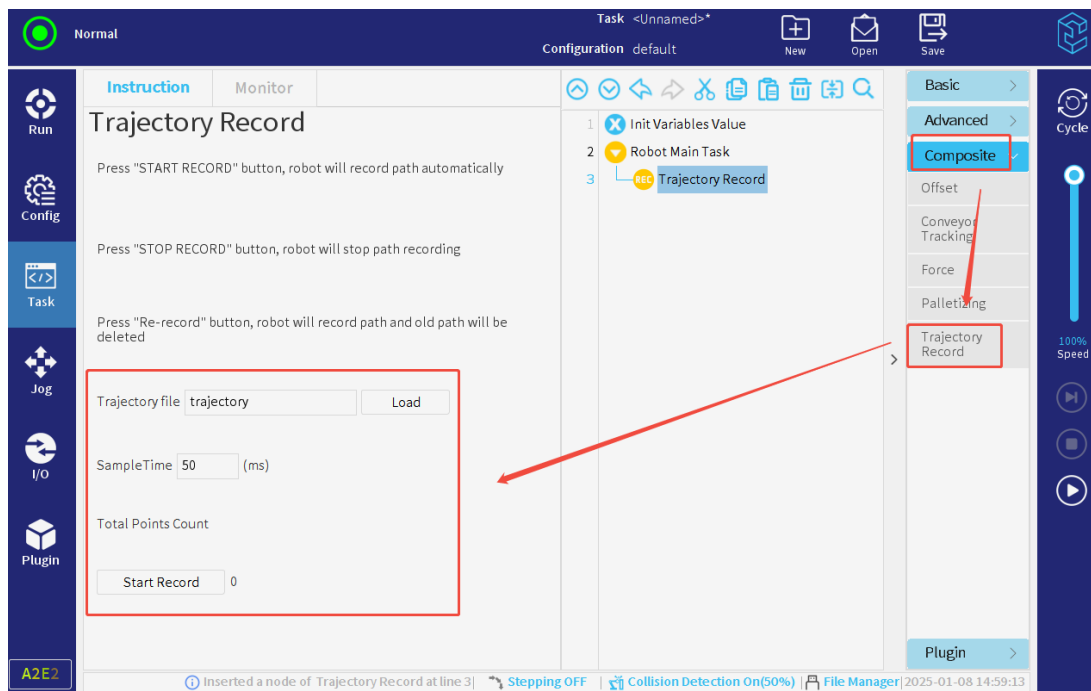

Figure 3-128 : Recording the trajectory
4. Click "Stop Re-record", the robot will start to make a record again and the previous path will be overwritten, as shown in **Figure 3-128**.